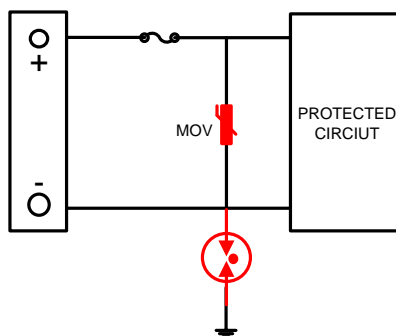

Figure 9
(2) MOV is connected with a GDT to the ground to slow down its aging. See Figure 9